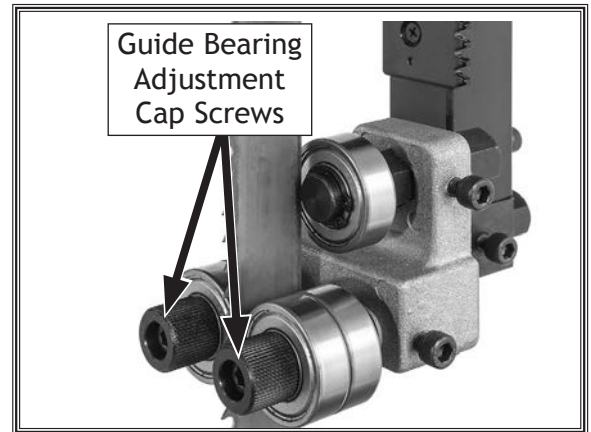

Figure 55. Location of upper guide bearing adjustment cap screws (guide post cover removed for clarity).
- Loosen both guide bearing adjustment cap screws (see Figure 55), then position guide bearings so they are close to—but not quite touching—sides of blade.